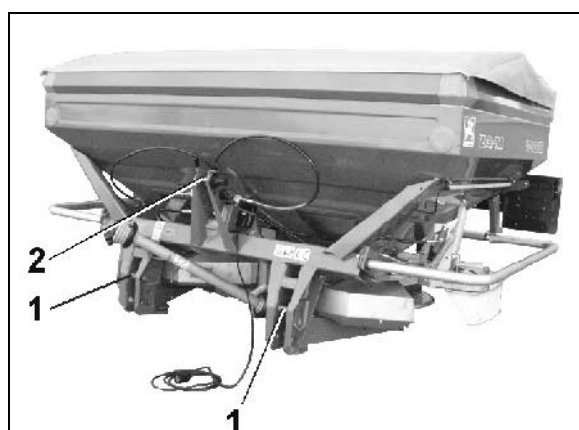

Fig. 40
1. Affix the ball sleeves above the upper and lower link pins (Fig. 40/1,2) in the linkage points of the three point mounting frame.